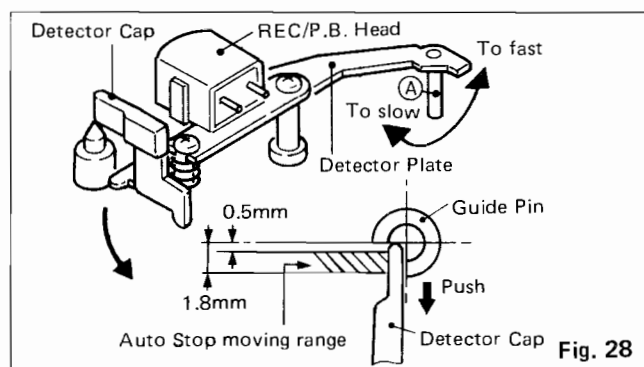

Fig. 28
Bend portion (A) of the detecting plate in Fig. 28 so that the autostop mechanism functions when causing the detecting cap top end to move by 0.5 - 1.8mm under a playing condition (namely, when a tape comes to an end after completing reproduction).